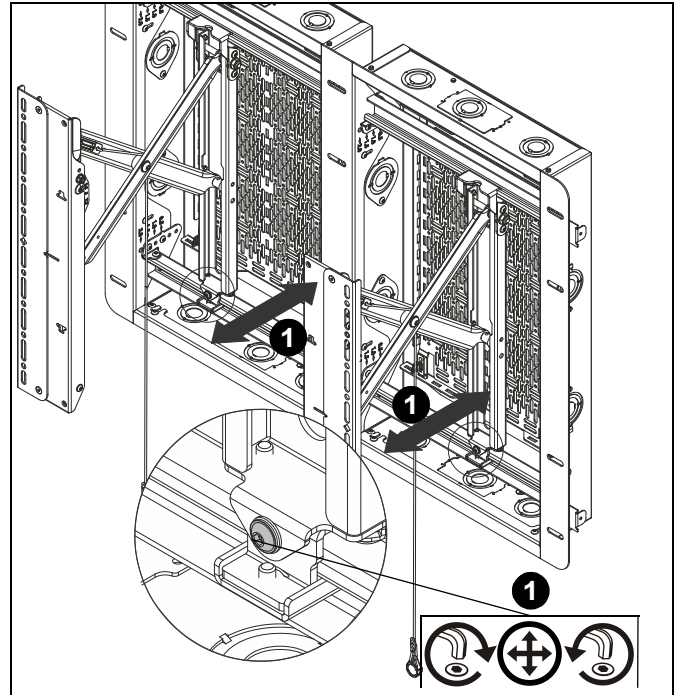

Figure 26
1. Adjust plumb adjustment screws to adjust plumb of each interface bracket (A and B). (See Figure 26)